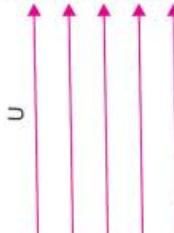

Fig. 5.31
5.13.2 Uniform Potential Flow Parallel to y-Axis. Fig. 5.31 shows the uniform potential flow parallel to y-axis in which U is the uniform velocity along y-axis.